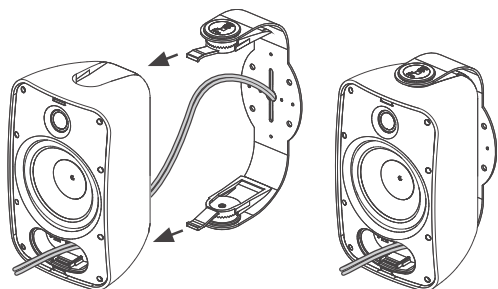

FIGURE 8:
5. Slide the speaker onto the bracket and firmly snap into place. Pull enough wire through the front of the speaker to allow connection to the terminals (see figure 8).